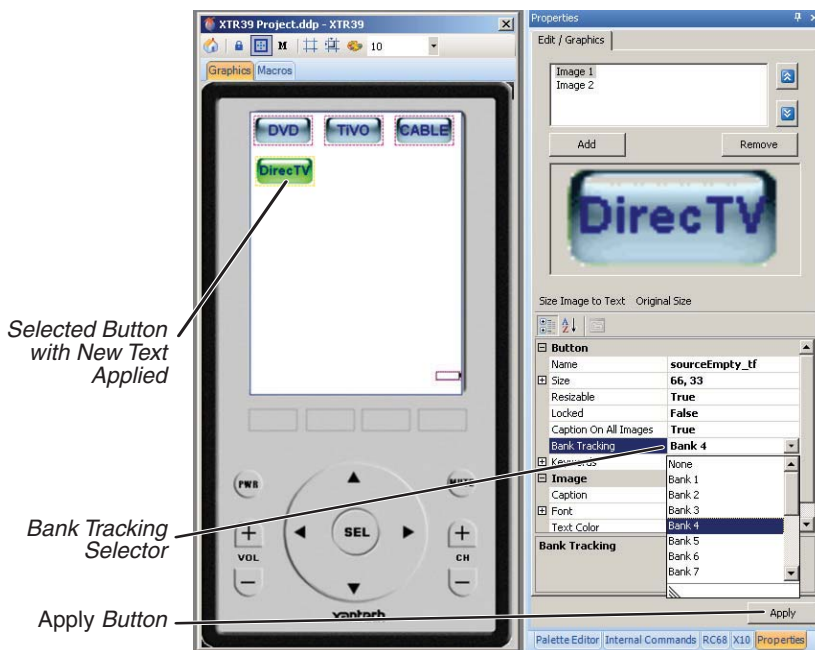

Figure 42: New Text Applied to Selected Button; Bank Tracking Selector
3. When you're finished formatting the text, click on the *Apply* button. The text will be applied to the selected button (see Figure 42).
BANK TRACKING: Each Source button can be assigned a unique Bank number for bank tracking during RC68 operation (see Figure 42).